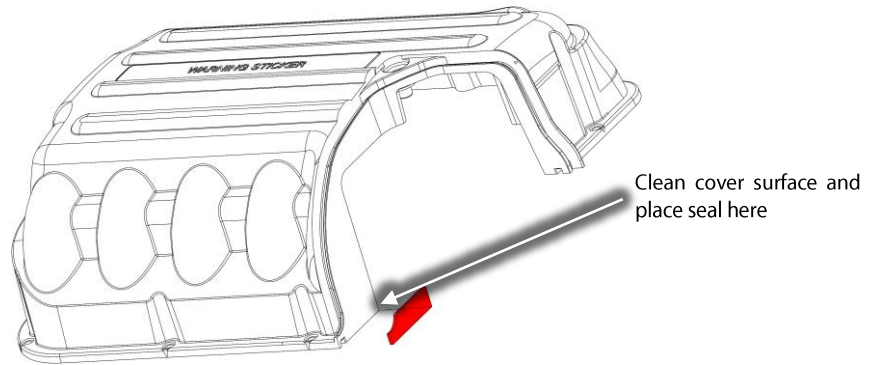

Figure 20 – Top Cover Foam Installation
3. Remove the adhesive backing and carefully install the Top Cover Sealing Foam. The foam must be aligned with the edges of the cover. Refer to Figures 20 (Top Cover Foam Installation) and 21 (Top Cover Foam Installed).